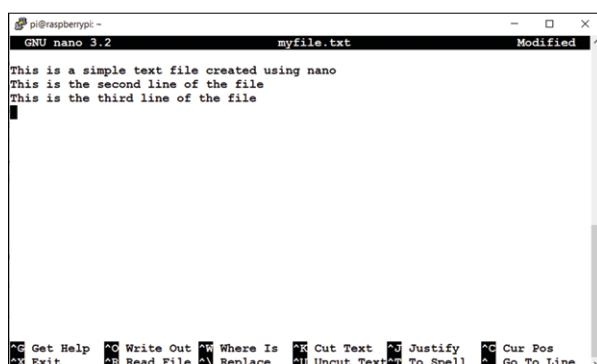

Figure 5.1: Text entered into the editor.
- Enter the above text into the file (see Figure 5.1). You should see a number of control codes at the bottom of the screen